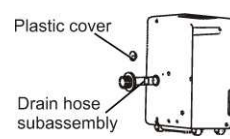

Fig.5
- Remove the plastic cover for the drain outlet, located on the back of unit. Remove bucket and insert the drain hose through the outlet and securely press it onto the connector. (Fig.5 & 6)